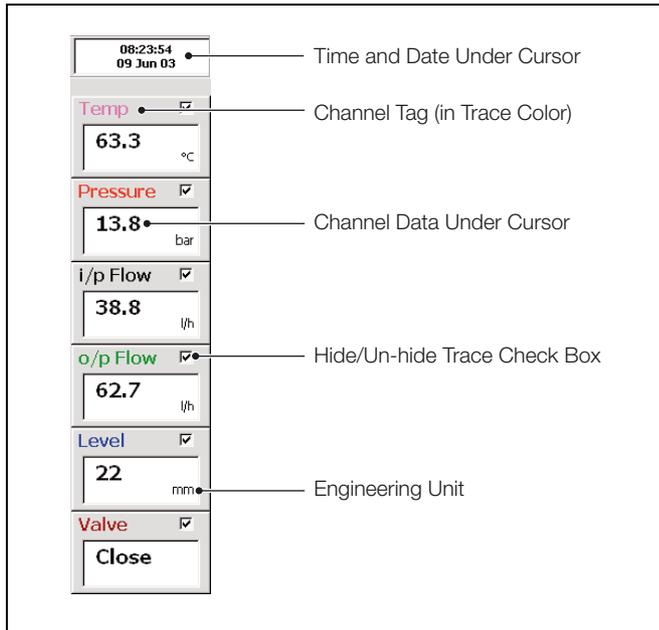

Fig. 3.6 Channel Indicators
3.7.2 Channel Indicators – Fig. 3.6